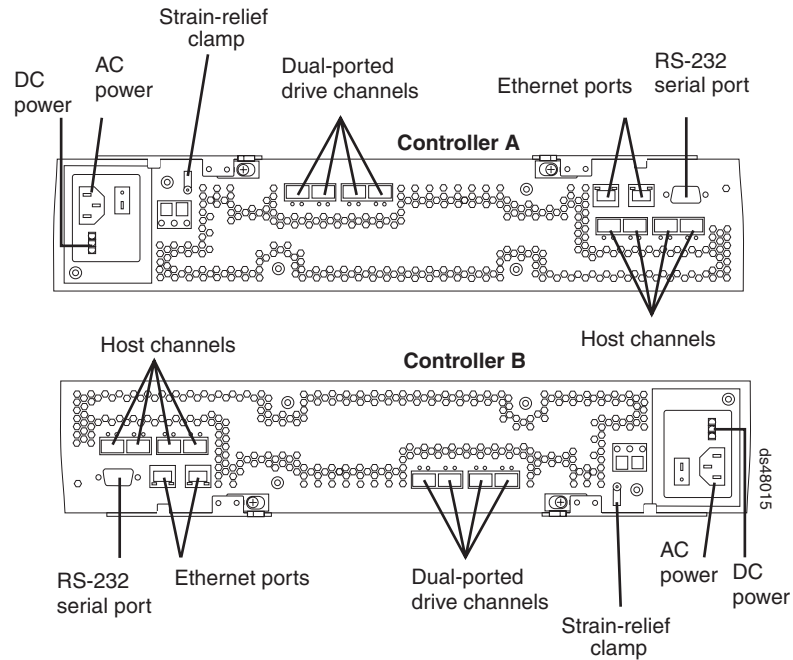

Figure 88. Connectors on the back of each controller
7. Disconnect all attached interface cables from the failed controller, including the SFP modules. Ensure that you label each cable so that you can reconnect them correctly to the new controller. Figure 88 on page 151 shows the location of the connectors on the back of a controller.